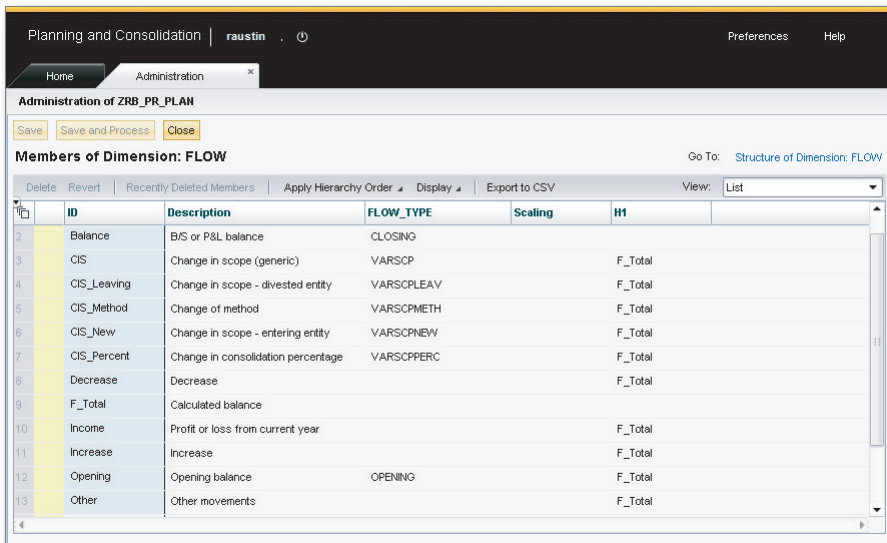

Figure 9.3 Configuring Carry Forward Balance Business Rule—Part C
3. Figure 9.3 shows the members of the Flow dimension, which are used to reflect flows such as open, movements, and close.